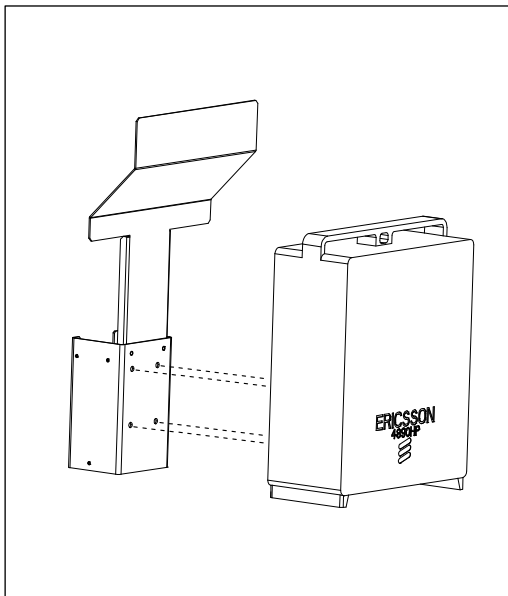

Figure 14
3. Attach the Ericsson 4890 radio to the front of the lower radio bracket using customer supplied hardware (Figure 14).